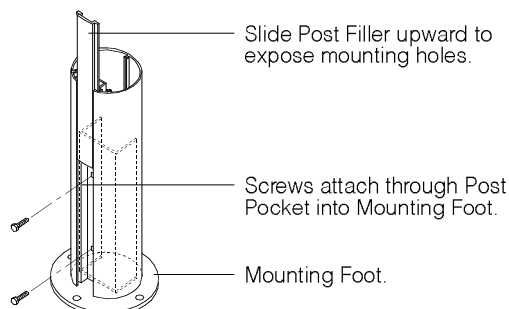

Fig. 4
1. Remove clear protective wrapping from Post. Remove Post Cap and slide Post Filler upward to expose holes in Post pocket. (Refer to Fig. 4)
2. Refer to Fig. 4 and insert Mounting Foot into bottom end of Post with flat side of Mounting Foot channel against backside of Post pocket.